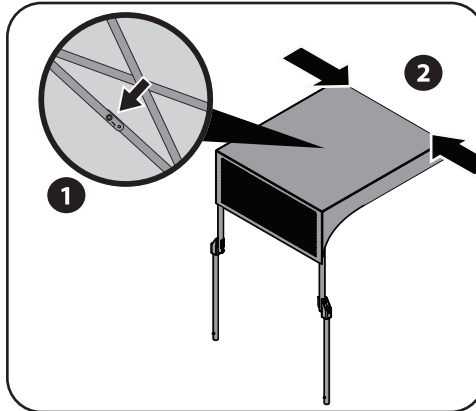

Figure 4-3
1. Unlock mechanism on the underside of the sun shade. Press the sides of the sun shade horizontally to collapse as shown in Figure 4-3.